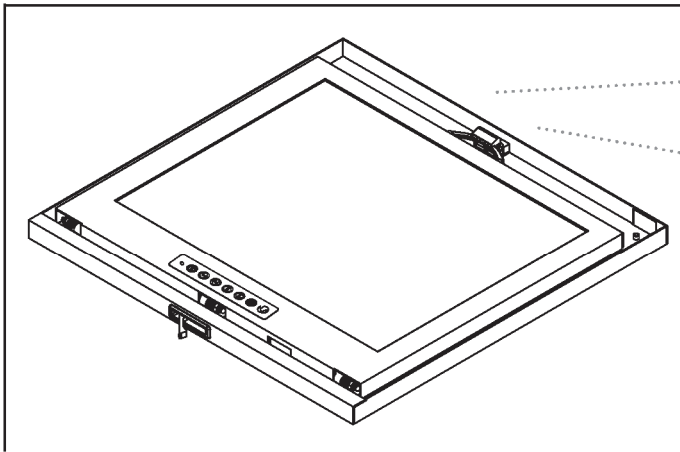

Figure 9.
■ The locking bracket will spring open in Figure 9